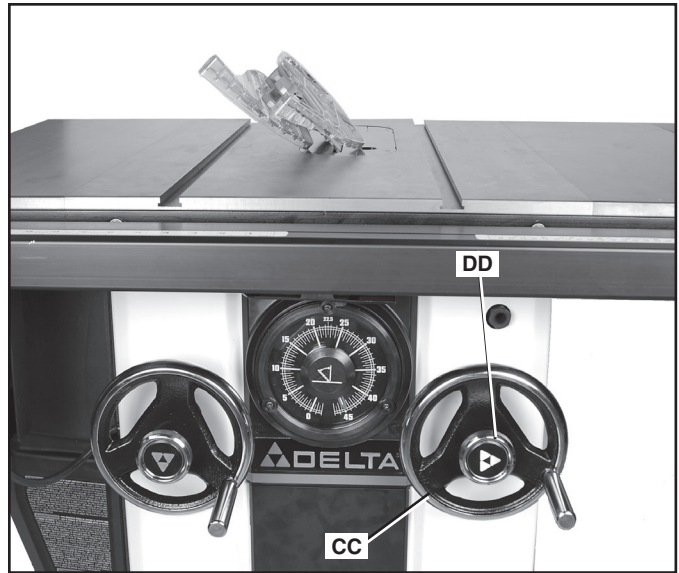
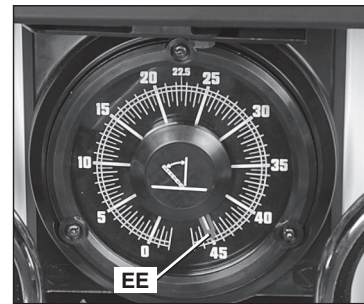

FIG. 23
FIG. 24
Tilt the blade to the left using the right handwheel (CC) Fig. 23.
To tilt the saw blade, loosen the lock knob (DD) Fig. 23 counterclockwise and turn handwheel (CC). A pointer (EE) Fig. 24 indicates the angle of tilt on the scale, marked in 1/2-degree increments.